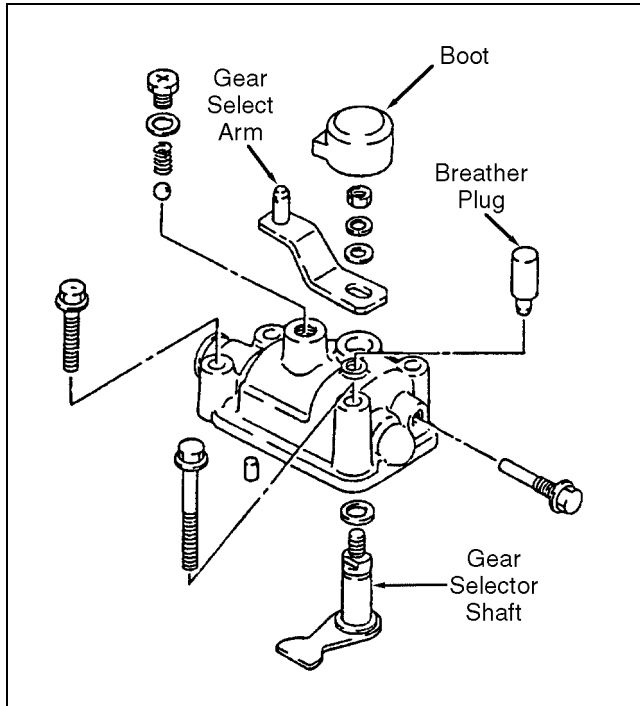

Figure 4H-2. Gear Shift Case
2. If necessary, disassemble the gear shift as shown in Figure 4H-2.
#### EXTENSION CASE (See Figure 4H-3)